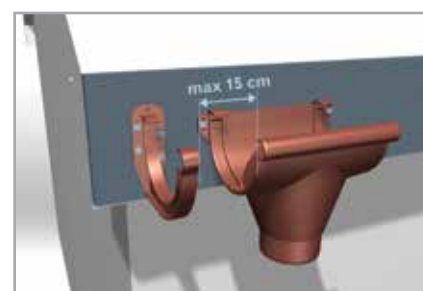

Fig. 3
- 1.7 At the outlet, connector and corner, the brackets should be installed up to a maximum of 15 cm **(Fig. 3)**